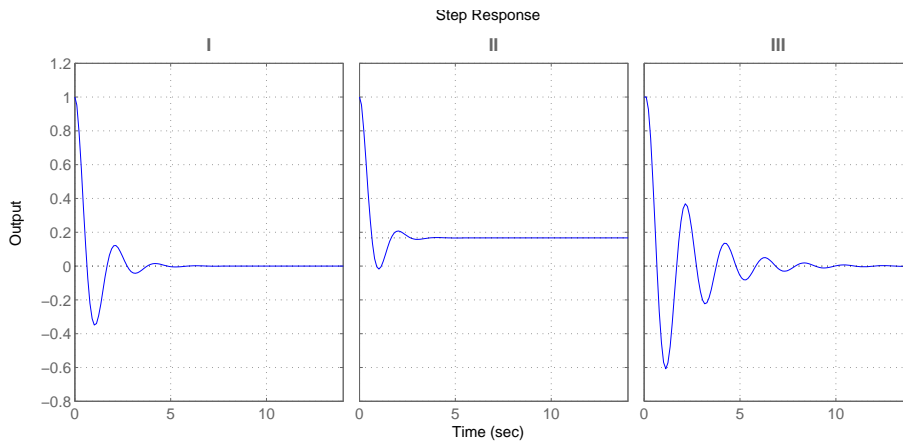

Figure 2.6 Step Load Disturbance Responses for Problem 2.5.
- b. Figure 2.6 shows responses to a step load disturbance, d , corresponding to the three different control designs $C_1 - C_3$. Combine the controllers $C_1 - C_3$ with the load step responses $I - III$.